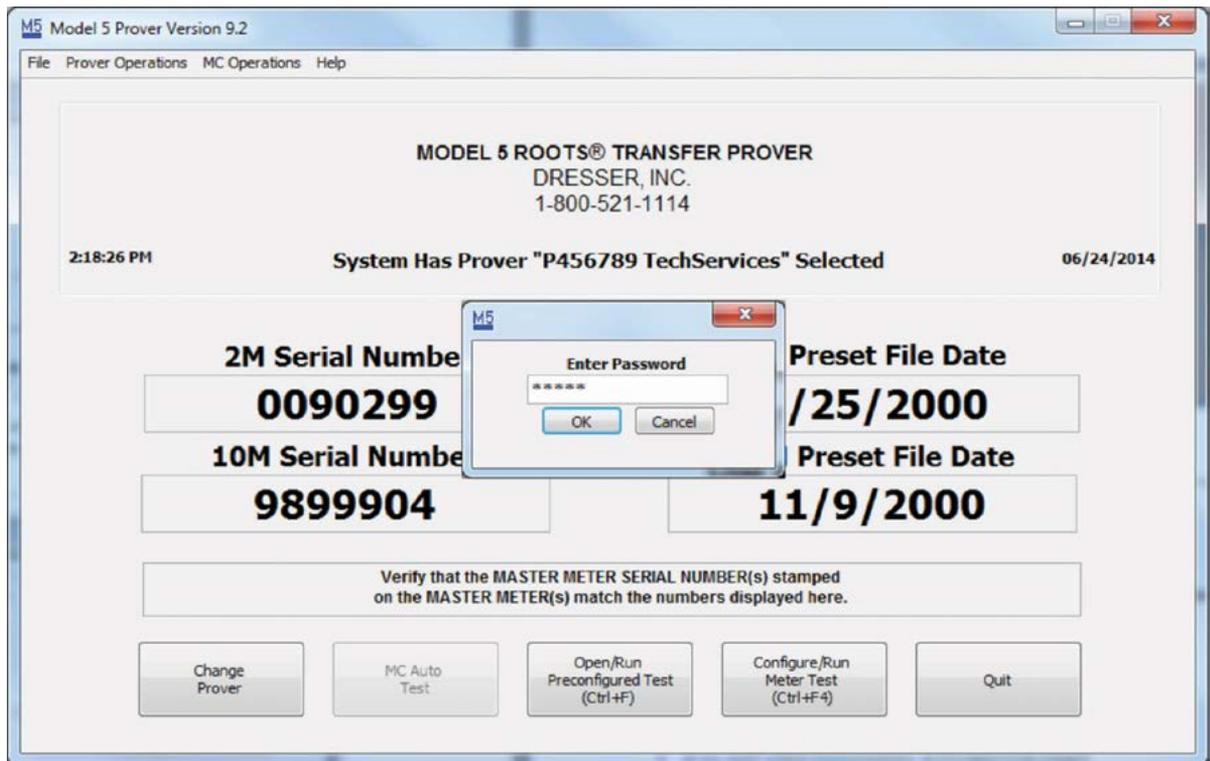

Figure 69: Password Dialogue Box
2. A small dialog box will appear as shown in **Figure 69**. Enter the Level 1 password “ROOTS.”